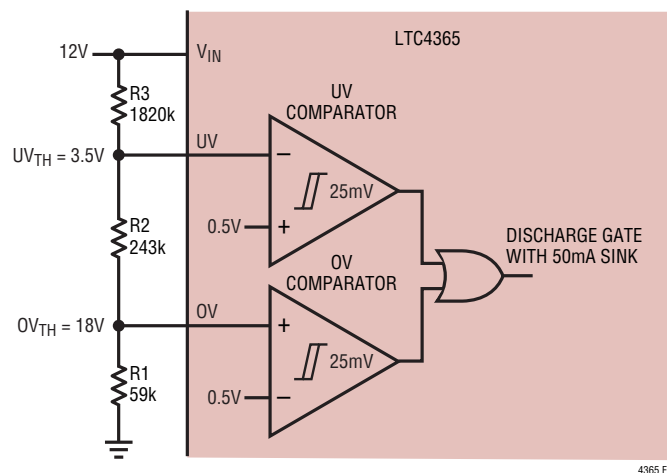

Figure 3. UV, OV Comparators Monitor 12V Supply
The LTC4365 provides two accurate comparators to monitor for overvoltage (OV) and undervoltage (UV) conditions at  $V_{IN}$ . If the input supply rises above the user adjustable OV threshold, the gate of the external MOSFET is quickly turned off, thus disconnecting the load from the input. Similarly, if the input supply falls below the user adjustable UV threshold, the gate of the external MOSFET also is quickly turned off. Figure 3 shows a UV/OV application for an input supply of 12V.
The external resistive divider allows the user to select an input supply range that is compatible with the load at  $V_{OUT}$ . Furthermore, the UV and OV inputs have very low leakage currents (typically  $< 1nA$  at  $100^{\circ}C$ ), allowing for large values in the external resistive divider. In the application of Figure 3, the load is connected to the supply only if  $V_{IN}$  lies between 3.5V and 18V. In the event that  $V_{IN}$  goes above 18V or below 3.5V, the gate of the external N-channel MOSFET is immediately discharged with a 50mA current sink, thus isolating the load from the supply.
The following 3-step procedure helps select the resistor values for the resistive divider of Figure 3. This procedure minimizes UV and OV offset errors caused by leakage currents at the respective pins.
The example of Figure 3 uses standard 1% resistor values. The following parameters were selected: